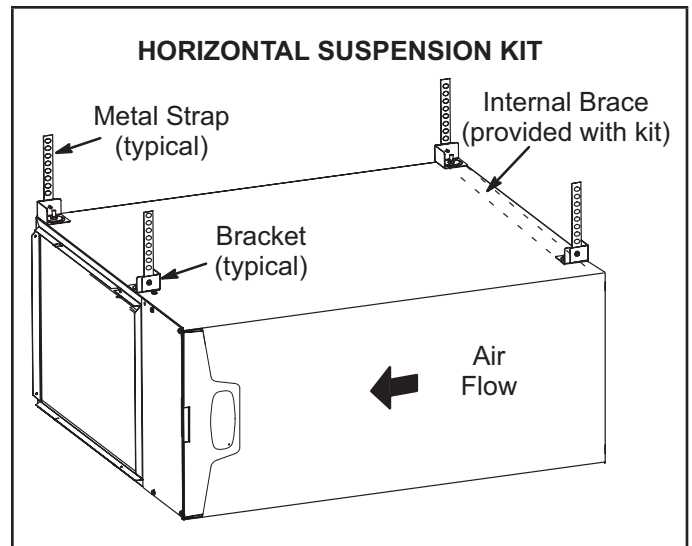
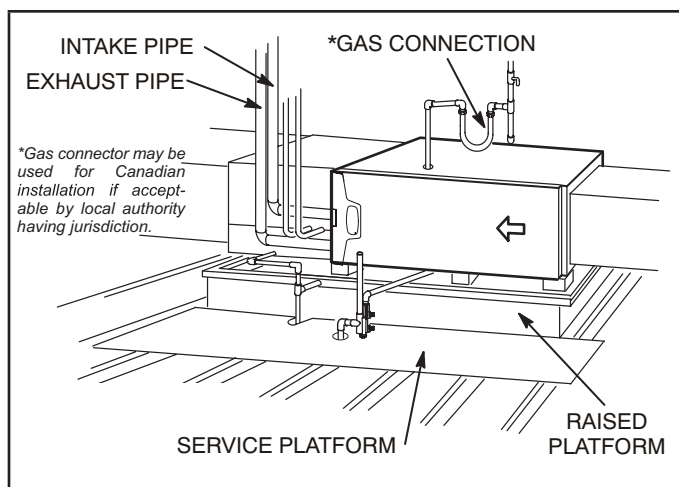

FIGURE 18
FIGURE 19
This furnace may be installed in either an attic or a crawlspace. Either suspend the furnace from roof rafters or floor joists, as shown in FIGURE 18, or install the furnace on a platform, as shown in FIGURE 19. A horizontal suspension kit (51W10) may be ordered from Lennox or use equivalent.
- 2 - Construct a raised wooden frame and cover frame with a plywood sheet. If unit is installed above finished space, fabricate an auxiliary drain pan to be installed under unit. Set unit in drain pan as shown in FIGURE 19. Leave 8 inches for service clearance below unit for condensate trap.